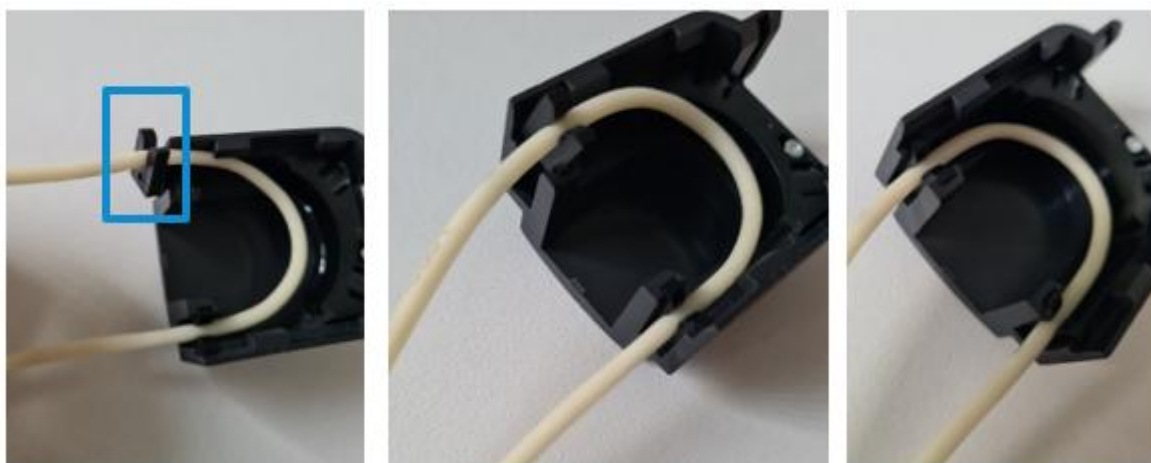

Figure 9: The tubing fits into the pump tube clips which then attach to the pump cover
3. Each pump has 2 tubing clips (highlighted in Figure 9, left). The clips are slotted into place in the pump cover with the opening facing out. The tubing should be pressed into the right-hand clip (Figure 9, middle) and wrapped around the tubing guide (Figure 9, middle) and then the second clip slotted in place (Figure 9, right). These clips are necessary for correct pump functioning. Position the tubing so that it can connect without stretching to the appropriate flasks. **Note that as the tubing stiffens with use, you may wish to mark the position of the tube-clamps on the tubing with indelible marker.**